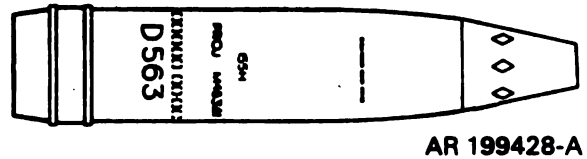

Figure 211.10. M483A1 projectile.
(9) *Projectile, 155-mm improved conventional munitions (ICM) M483A1 (fig. 211.10).*